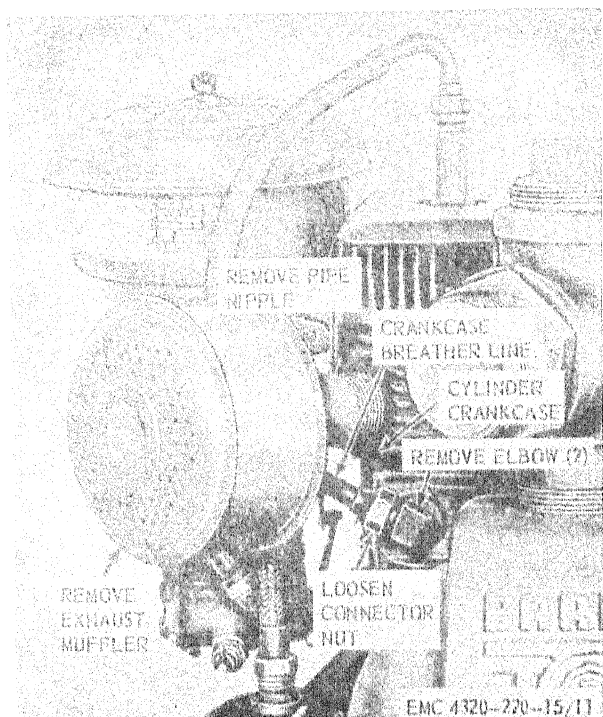

Figure 11. Exhaust muffler and crankcase breather line, removal and installation.
- a. Remove and install the exhaust muffler as shown by figure 11.
- a. Remove and install the engine crankcase breather line as shown by figure 11.